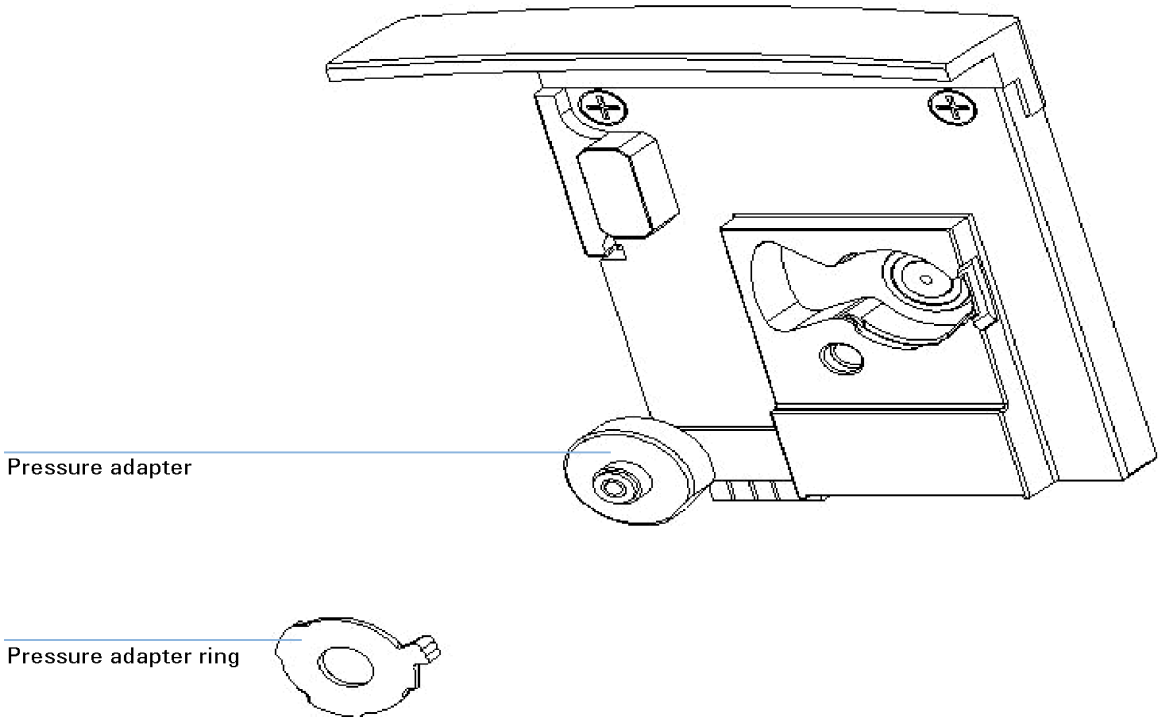

Figure 13 Pressure adapter and mounting ring
- 5 Pull the pressure adapter out of its mount, and replace it, see Figure 13 on page 181.